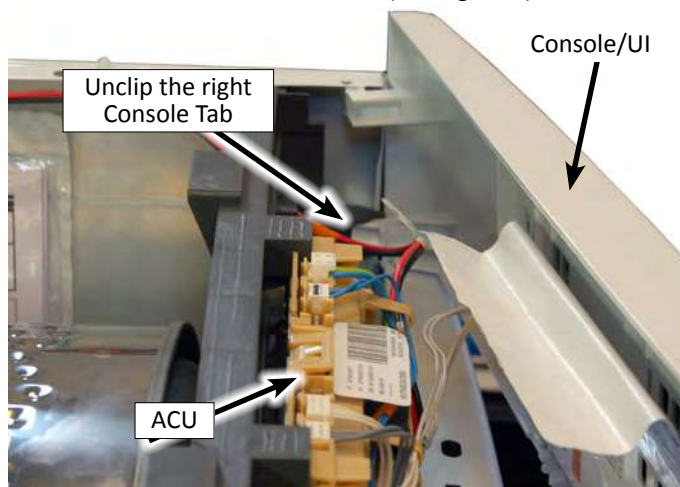

Figure 4
8. Swivel the Console/UI out and unclip the right-side console tab from the bulkhead (see Figure 4).